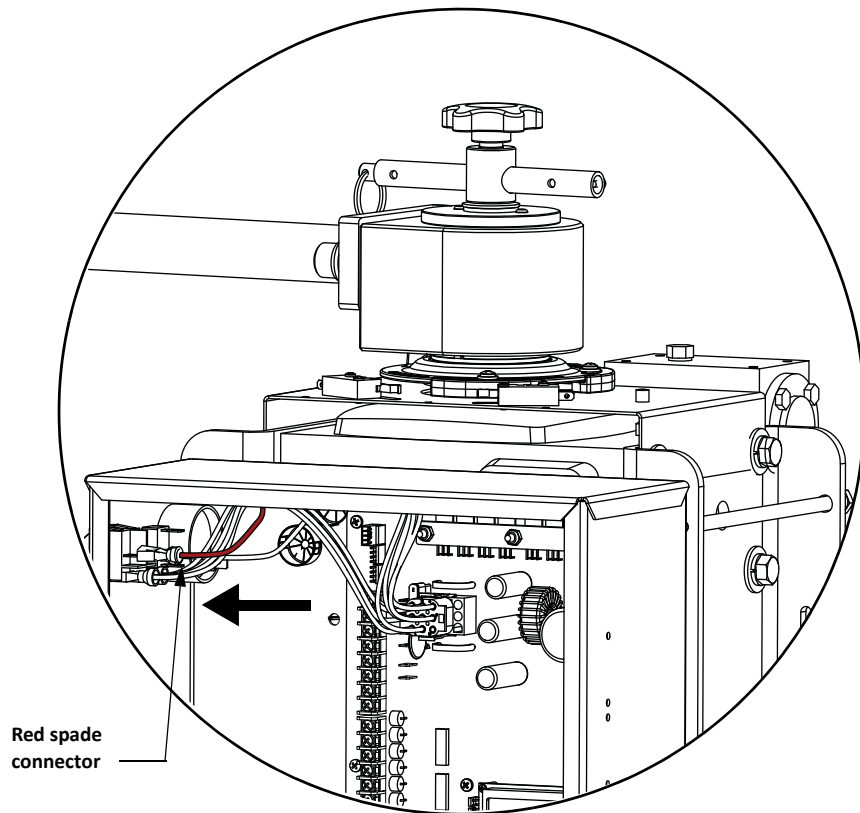

Figure 2-4.
3. Attach the red spade connector to the battery terminal on the DC power switch. See Figure 2-4.